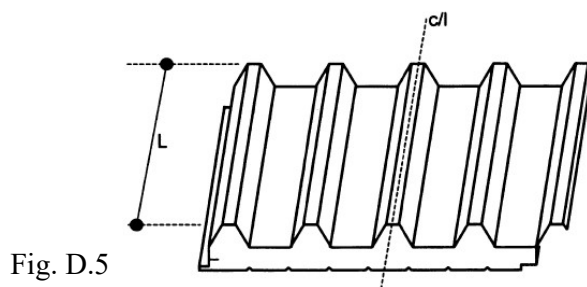

Fig. D.5
The length (L) shall be measured along the center axis of the panel (see Figure D.5) with the panel continuously supported on a flat surface. The panel length shall be verified at least once during each shift (6 h or 8 h). If the length over the foam is different from the length over the steel sheet, the tolerance shall be based on the length of the metal sheet. A separate tolerance shall be applied to the overlap.